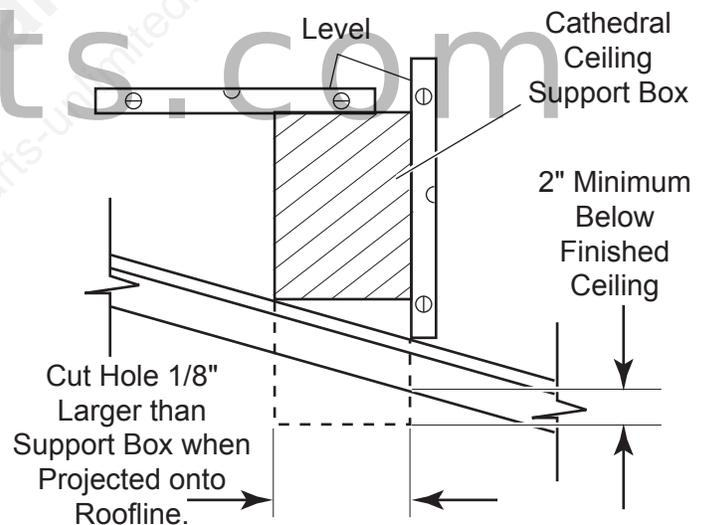

Figure 21 - Cathedral Ceiling Support Box Installation
2. Cut the hole $\frac{1}{8}$ " larger than the support box outline. See Figure 21.
3. Lower the support box through the hole in the roof until the bottom of the box extends at least 2" (mm) below the ceiling. See Figure 21. Align the support box vertically and horizontally using a level. Temporarily tack the support box in place through the inside walls and into the roof sheathing.